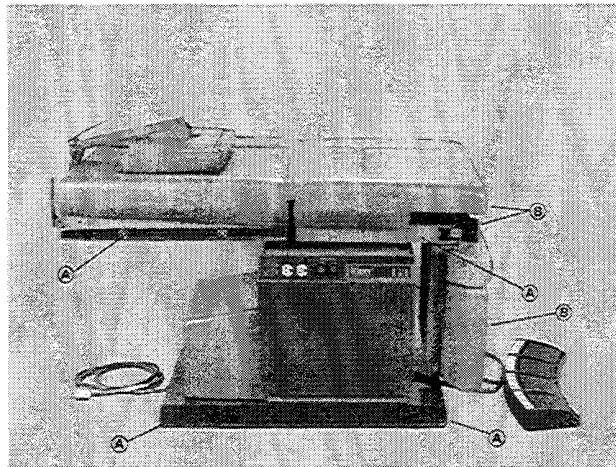

Fig. 1
1. **DO NOT LIFT AT POINTS B, FIG. 1. THESE POINTS ARE NOT SUPPORTED AREAS. LIFTING AT THESE POINTS COULD CAUSE PERSONAL INJURY OR DAMAGE TO THE TABLE (Page 2).**
UNPACKING: To avoid damaging the table's upholstered top or side panels, do not use a knife or other sharp object to open the packaging when unpacking. Unbolt the table from the wooden shipping skid by removing four (4) bolts on the underside of the base, one at each corner. After unbolting, remove the chair from the skid, lifting only at Points A, Fig. 1.
1. **DO NOT LIFT AT POINTS B, FIG. 1. THESE POINTS ARE NOT SUPPORTED AREAS. LIFTING AT THESE POINTS COULD CAUSE PERSONAL INJURY OR DAMAGE TO THE TABLE.**